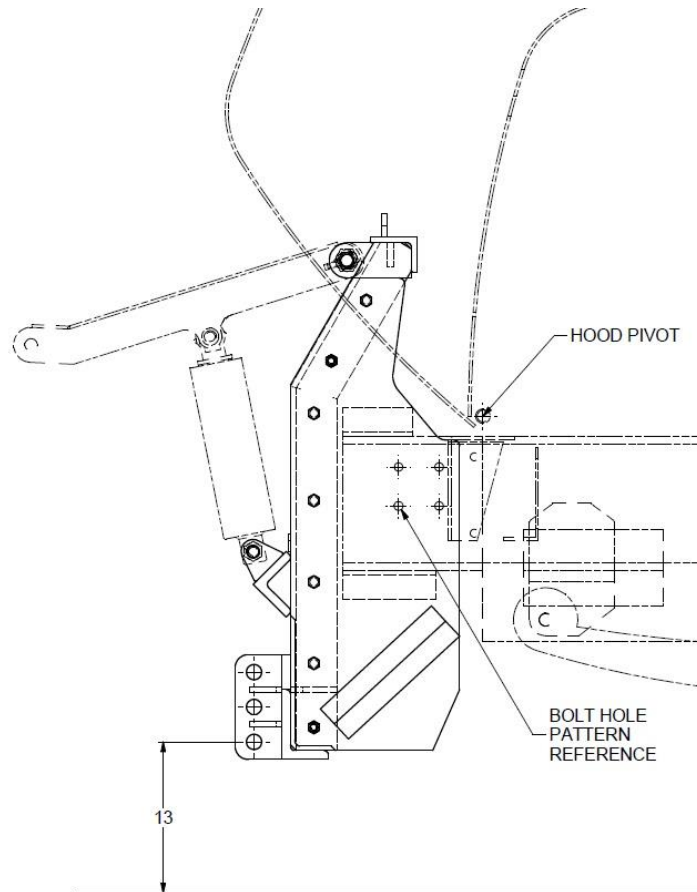

Figure 1
- 1.** INSTALL HITCH 13" OFF THE GROUND FROM THE FIRST PUSH LUG HOLE (FIG 1). **(THOUGH PUSH HEIGHTS MAY VARY)**
- 2.** KEEP THE HITCH AS CLOSE AS POSSIBLE TO THE TRUCK AND BOLT ON TO FRAME WITH A MINIMUM OF (6) 5/8" DIA. GR. 5 BOLTS EACH SIDE.